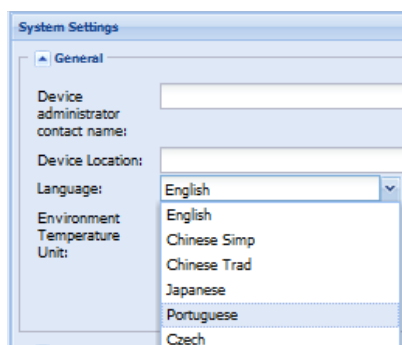

Figure 94. Change Language on System Settings Page
4. To change the language, select a language from the drop down list (see Figure 94).